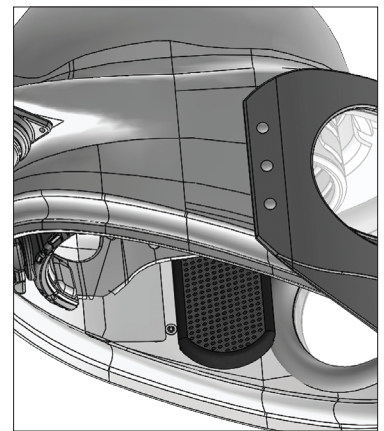

Figure 6
- 2.1.4** Before powering on the COVX, ensure the placement of the COVX inside the 88VX respirator helmet. Attach the back side of the COVXHOLDER, with the COVX installed, to the hook strip installed in the interior of the 88VX. Ensure the mesh side of the COVXHOLDER is facing the interior of the 88VX respirator helmet, and that the LED screen is visible through the mesh. See Figure 6 below.